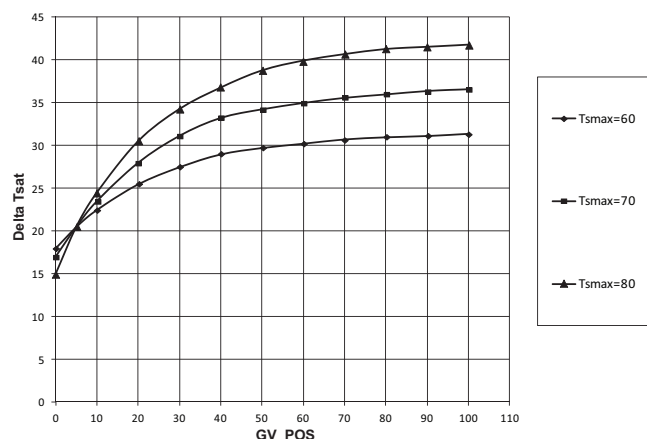

Fig. 38 — Effect of SURGE/HGBP DELTA TSMAX on Surge Prevention
- Surge/HGBP Delta Tsmax is the maximum difference between cooler and condenser saturation temperatures. (See Fig. 38.)